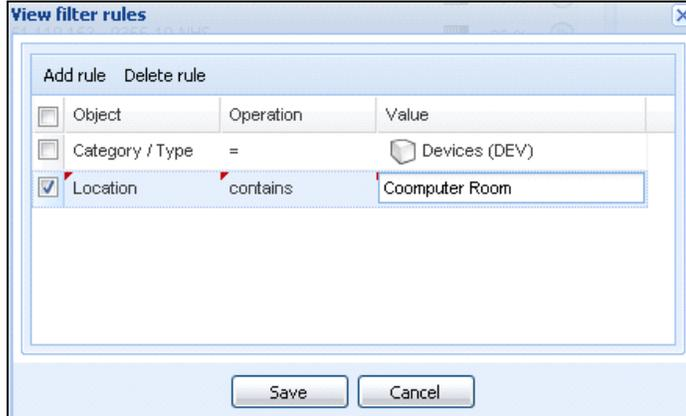

Figure 61. View Filter Rules Dialog Box
3. Click **Edit a Filter View**. The View Filter Rules dialog box displays (see Figure 61).
With the setup shown in Figure 61, this filtered view allows you to view the devices whose location field contains the value “Computer Room.”